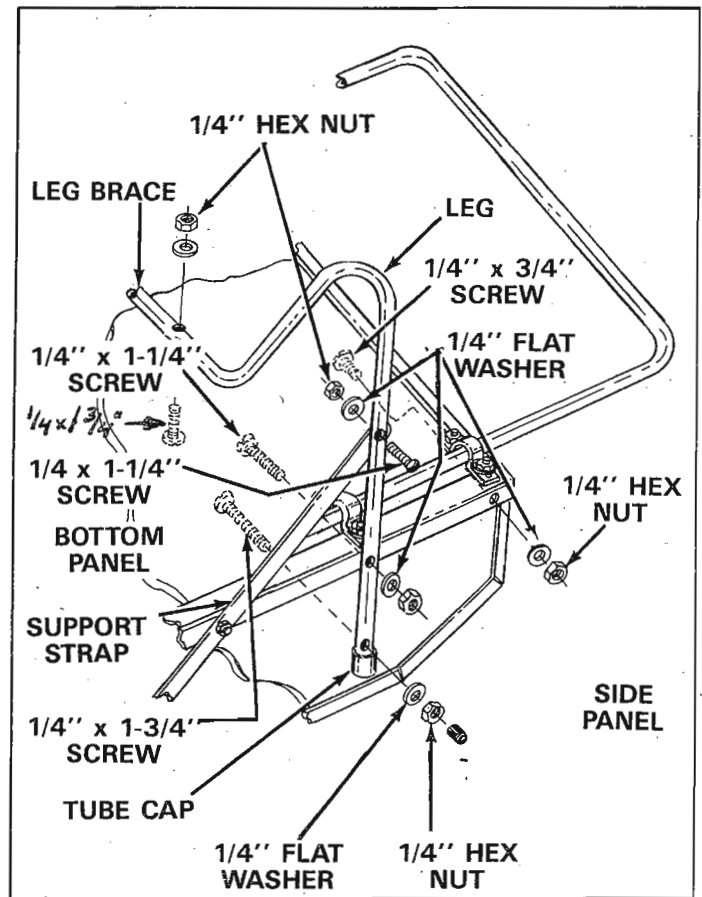

FIGURE 10.
Place tube caps on ends of "W" leg. See figure 10.
- With cart still upside down, assemble the leg to bottom and side of cart. Line up holes in center of "W" leg with two holes in bottom. Secure with two 1/4" x 1-3/4" screws, inserted from inside of cart, fasten with 1/4 flat washers and 1/4 hex nuts. See figure 10. Do not tighten at this time.
- Assemble the leg to each of the side panels with two 1/4 x 1-3/4" screws, inserted from inside of cart, fasten with 1/4 flat washers and hex nuts. See figure 10. Assemble 1/4" x 3/4" screws in back hole of both side angles and fasten with 1/4" flat washers and hex nuts.
- Assemble the leg to each of the support straps with two 1/4 x 1-1/4 screws and secure with 1/4" flat washers and hex nuts. See figure 10.
- Now tighten all screws and nuts securely. Install rubber caps on 1/4 x 1-3/4" screws as shown in figure 10.